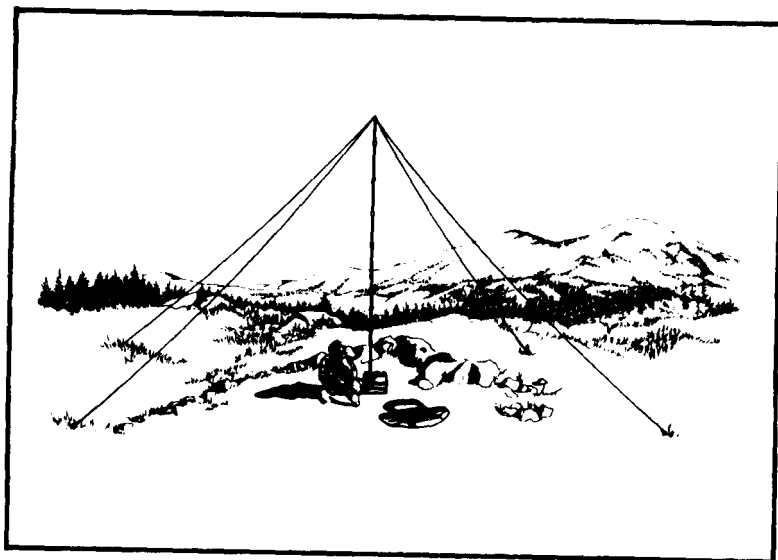

Figure 3-16. AS-2259/GR (NVIS).
a. The NVIS Antenna AS-2259/GR is a lightweight, sloping dipole, omnidirectional antenna. It is designed to be used with an AM radio operating in the HF range of 2 to 30 MHz. It provides high angle radiation (near vertical incidence) to permit short-range sky wave propagation over communications circuits varying from 0 to 300 miles. It can be used with tactical HF radio communications equipment that tunes a 15-foot whip antenna. Examples of such equipment are the AN/GRC-106 and the IHFRs (AN/PRC-104A and AN/GRC-213/193A). Figure 3-16 shows an operational AS-2259/GR NVIS.